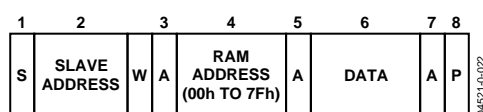

Figure 31. Single-Byte Write to RAM
- Write a single byte of data to RAM. In this case, the command byte is the RAM address from 00h to 7Fh and the (only) data byte is the actual data. This is illustrated in Figure 31.